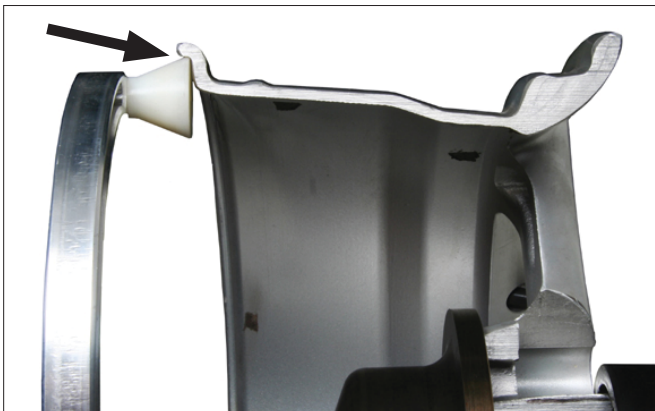
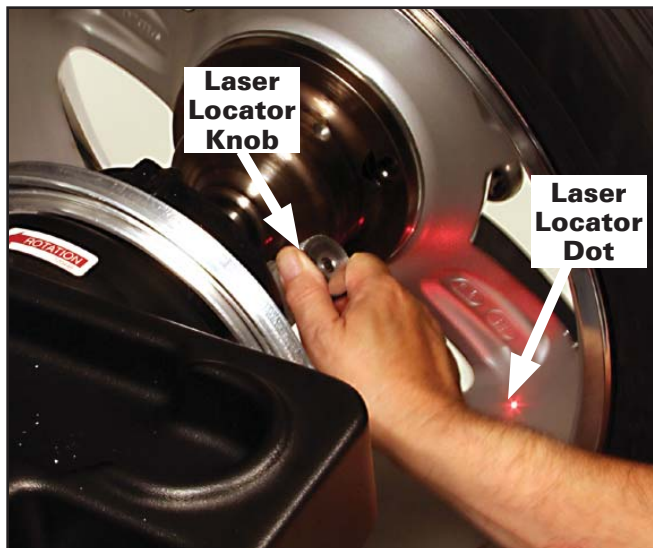

Figure 6B - Clip-on Weight Location Viewed on a Cut-Away Rim for Clarification.
Figure 8 - Positioning Laser Dot At T2 - Tape Hidden Weight Location (A2)
When prompted by balancer instructions, use the offset arm (figure 6A) to enter A & D measurements automatically. Pull the arm out and up against the wheel flange; hold it still at the clip-on weight location (figure 6B), against the wheel flange, and wait for the BEEP.
Be sure to place the offset arm on the wheel flange at the clip-on weight location as shown figure 6B.
If the T2 - Tape (hidden Tape-A-Weight®) location is selected, use the laser locator to point to the hidden weight location (figures 8 & 7B). Rotate laser locator knob to position the laser dot outboard at the desired T2-Tape (hidden Tape-A-Weight®) location.
If the T2 - Tape (hidden Tape-A-Weight®) location is selected, use the line laser to align the offset arm with the laser locator dot (figures 8 & 7B); entering A2 & D2 measurements automatically. Grasp arm at the line laser and pull out and up to the wheel flange (figure 6B). Hold arm still at the clip-on weight location and wait for BEEP. Then, before returning arm to home position, press button on line laser to activate the line laser beam. Move arm to inner area of wheel and align line laser beam with laser locator dot (figure 8). Hold arm still, up against the rim, in the same plane as the T2-Tape (hidden Tape-A-Weight®) location (figure 7A & 7B) and wait for BEEP. Refer to figure 9.
3. Rotate the laser locator knob to position the laser locator dot at the desired weight location. See figures 8 & 7B.